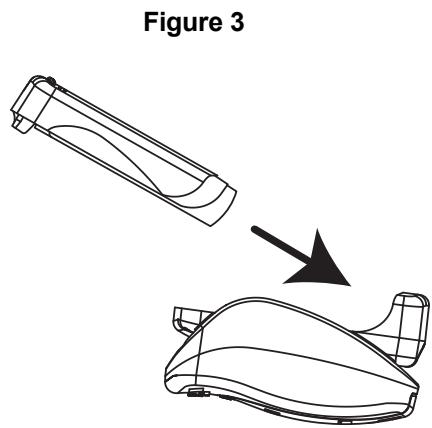

Figure 3
- Carefully guide the battery tray back onto the device. Press downward and then push inward slightly to re-secure the battery tray (**Figure 3**). *Do not force it into place; it fits only when properly positioned.*